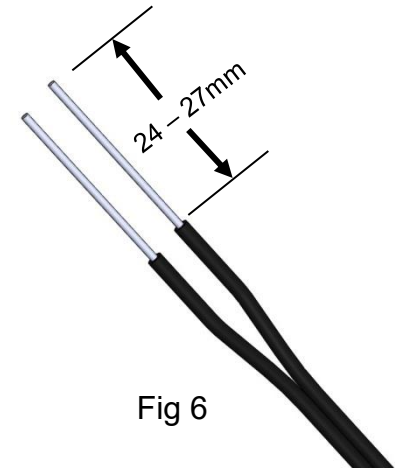

Fig 6
2. After stripping, the fibers should appear as they do in Figure 6.